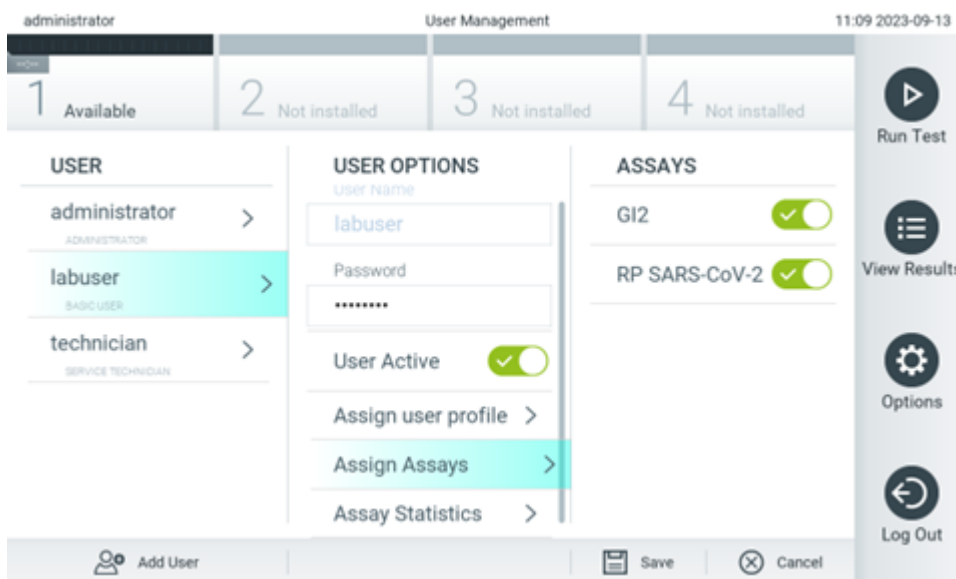

Figure 53. Assigning assays to users.
- **Assign Assays:** Enables defining the assays from the assay database that the user is permitted to run. Select the assays from the list on the right of the content area (Figure 53)